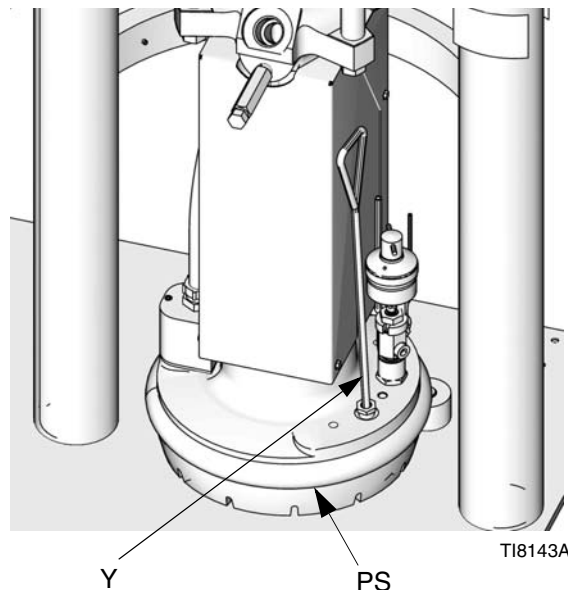

FIG. 20: Platen
5. Apply a thin coating of high temp grease lubricant (part no. 115982) to the platen seals (PS). See FIG. 20.
9. Remove the platen bleed stick (Y). See FIG. 20.
12. After the platen seal (PS) enters the material pail, adjust the ram DOWN air regulator (P) to 30-50 psi (207-345 kPa, 2.1-3.4 bar). See FIG. 19 and FIG. 20.
13. When the ram stops, reinsert the platen bleed stick (Y) and hand tighten. See FIG. 20.